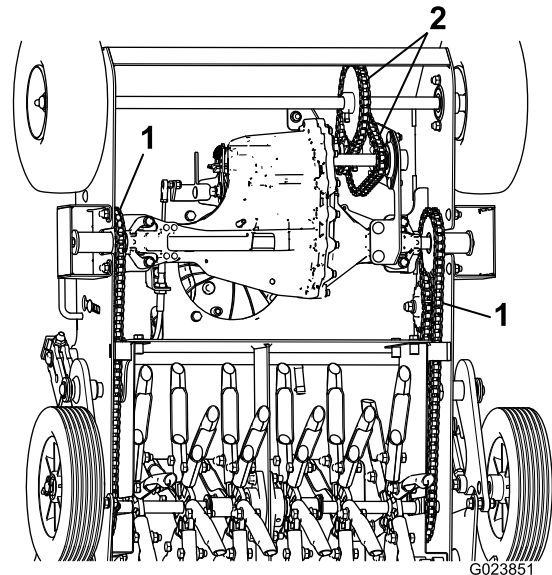

Figure 19
2. Raise the front of the machine to gain access to the chains (Figure 19) and block it in place.
3. Rotate the front wheels and apply oil or chain lubricant onto the links of the lower spans of the front drive chains (Figure 19).
4. Check the front drive chains (Figure 19) for wear, damage, and proper tension.
5. Rotate tine shafts and apply oil or chain lubricant onto all the links of the lower spans of the tine-drive chains (Figure 19).